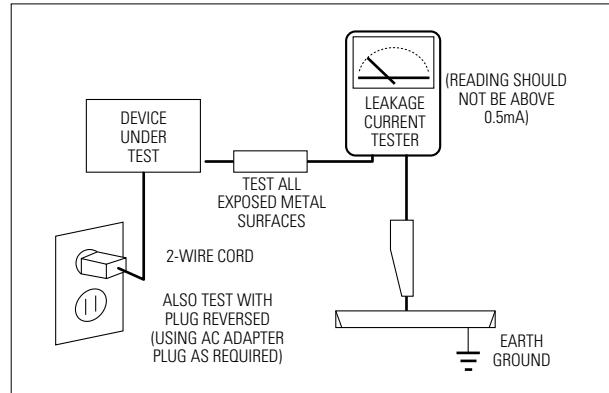

Fig. 1-1 AC Leakage Test
4. Leakage Current Hot Check (Figure 1-1): Warning: Do not use an isolation transformer during this test. Use a leakage-current tester or a metering system that complies with American National Standards Institute (ANIS C101.1, Leakage Current for Appliances), and Underwriters Laboratories (UL Publication UL1410, 59.7).